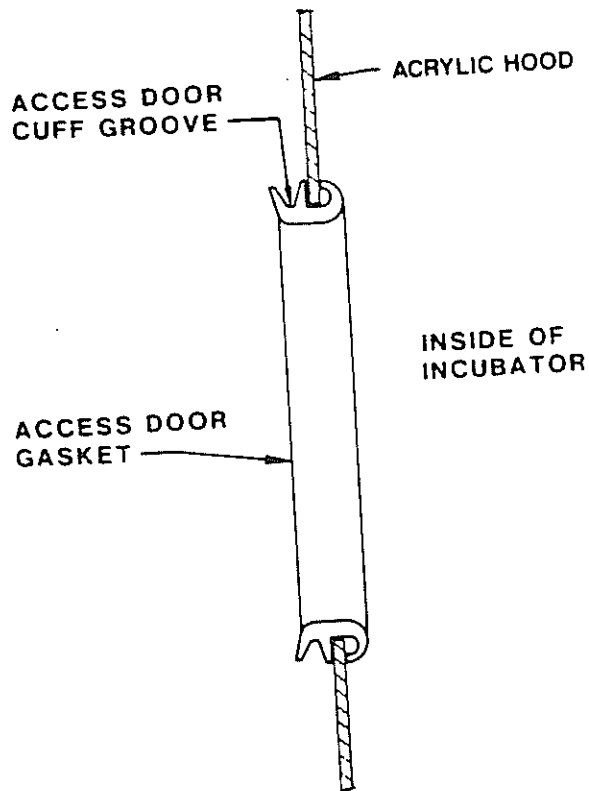

FIGURE 4.13 INSTALLATION OF ACCESS DOOR GASKET
- I. **INSTALL AN ACCESS DOOR GASKET** behind each Access Door, as shown in Figure 4.13.